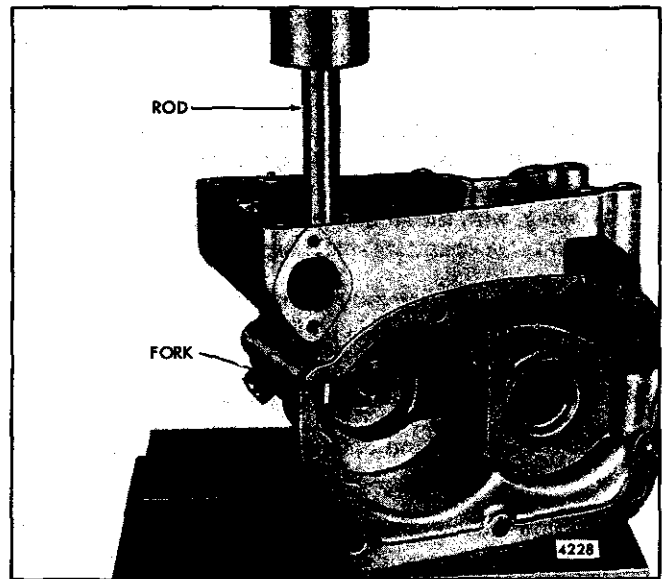

Fig. 11 – Installing Governor Operating Fork
4. Align the flat surfaces and start the operating shaft fork on the shaft with the finished cam surfaces of the fork facing toward the rear of the governor. Insert the threaded end of tool J 21995-2 through the cup plug hole in the housing. Then thread the knurled nut J 21995-1 on the end of the tool so the fork rests on the nut. Use a rod of suitable length and diameter and press the shaft into the fork until the fork is flush with the end of the shaft (Fig. 11). Remove the tools.